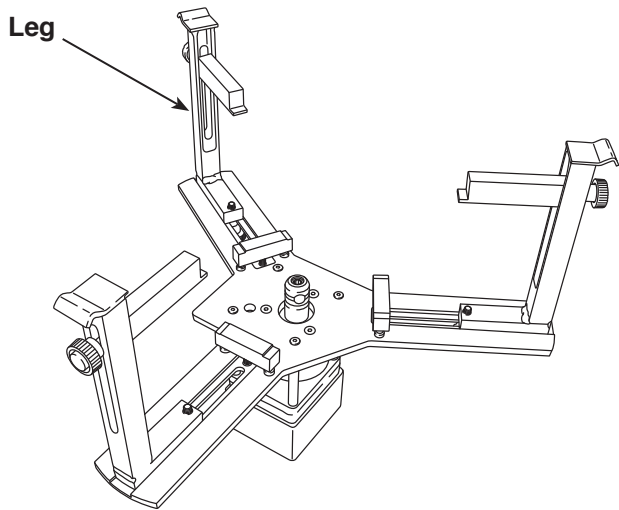

Figure 6
1. Assemble the three legs to the fixture as shown in Figure 6.